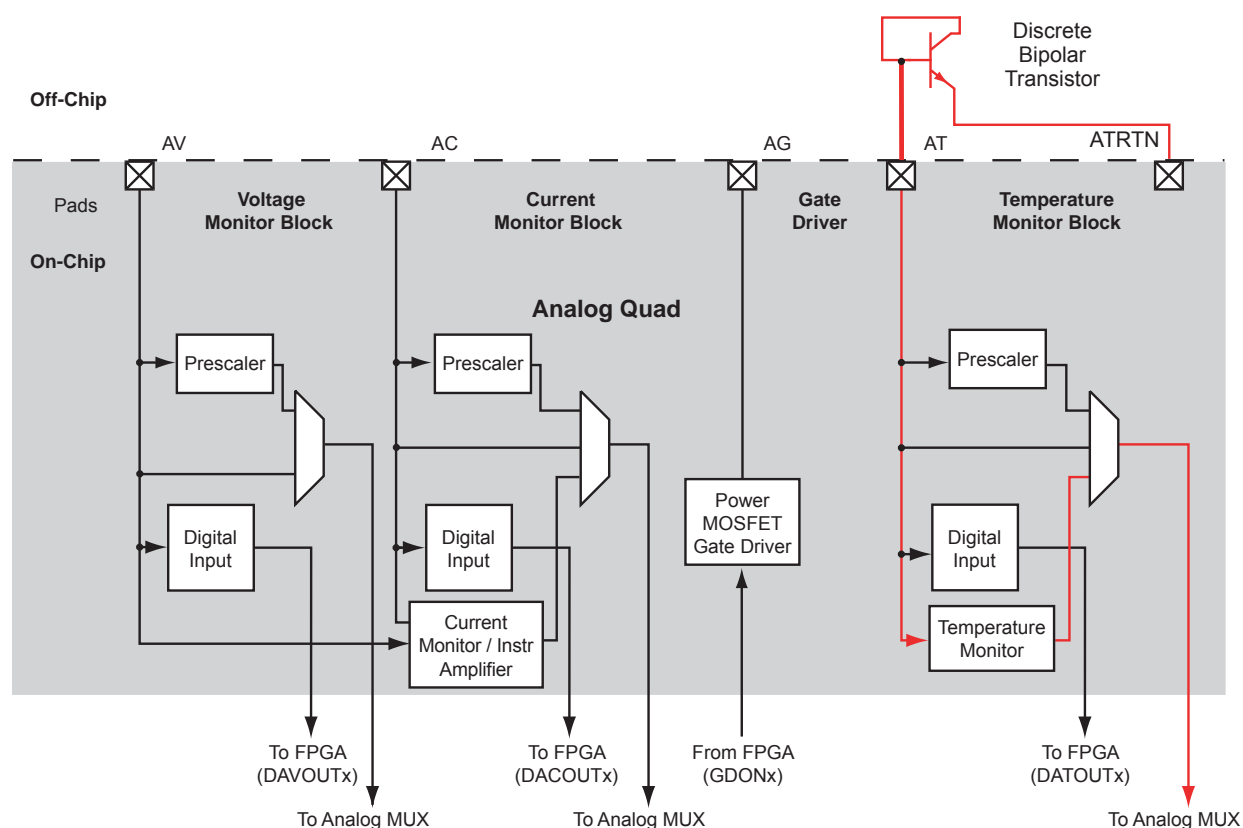

Figure 2-77 • Temperature Monitor Quad
The final pin in the Analog Quad is the Analog Temperature (AT) pin. The AT pin is used to implement an accurate temperature monitor in conjunction with an external diode-connected bipolar transistor (Figure 2-77). For improved temperature measurement accuracy, it is important to use the ATRTN pin for the return path of the current sourced by the AT pin. Each ATRTN pin is shared between two adjacent Analog Quads. Additionally, if not used for temperature monitoring, the AT pin can provide functionality similar to that of the AV pad. However, in this mode only positive voltages can be applied to the AT pin, and only two prescaler factors are available (16 V and 4 V ranges—refer to Table 2-54 on page 2-132).